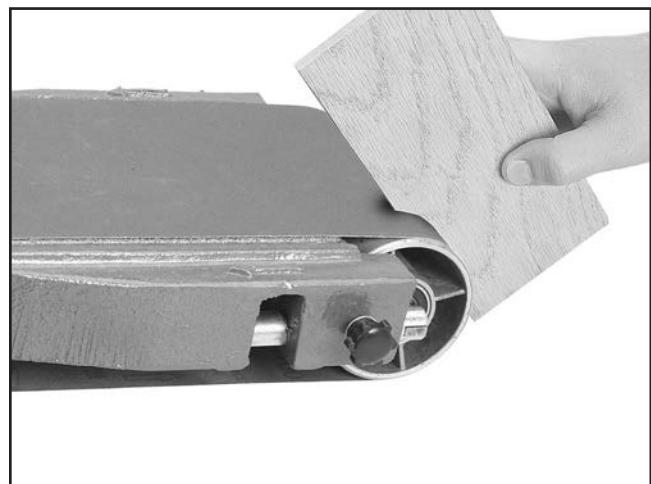

Figure 58. Example of contour sanding.
- Slowly feed the workpiece into the curved end of the belt and continue moving the workpiece profile along the contour until you achieve your desired shape, as shown in **Figure 58**.